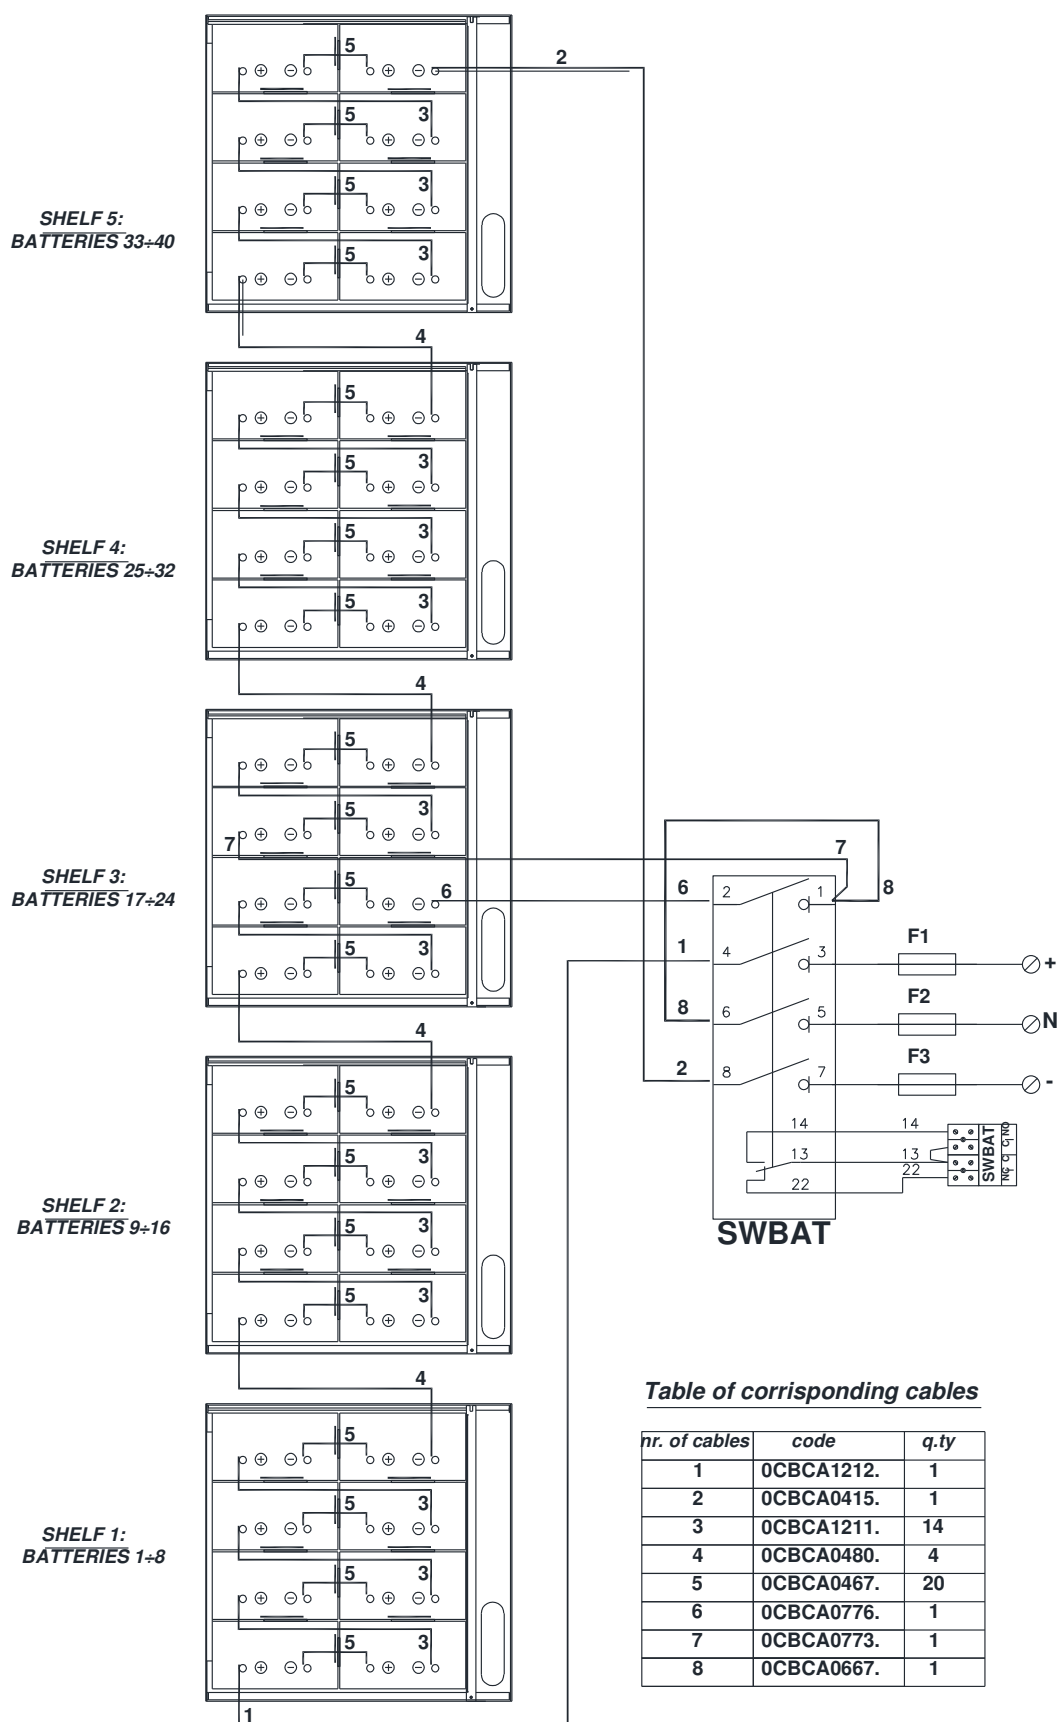

Fig. 3
- Connect the batteries and switch with the supplied cables as per Fig. 3, relative to type of connection: